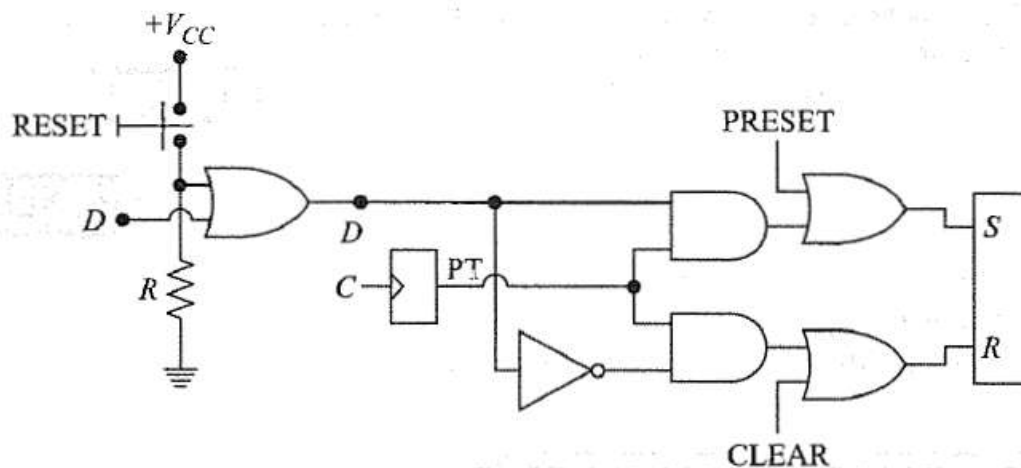

Fig. 8.22 PRESET and CLEAR functions
- Figure 8.22 shows how to include both functions in a D flip-flop. The edge triggering is the same as previously described. Depressing the RESET button will set Q to 1 with the first PT of the clock. Q will remain high as long as the button is held closed.